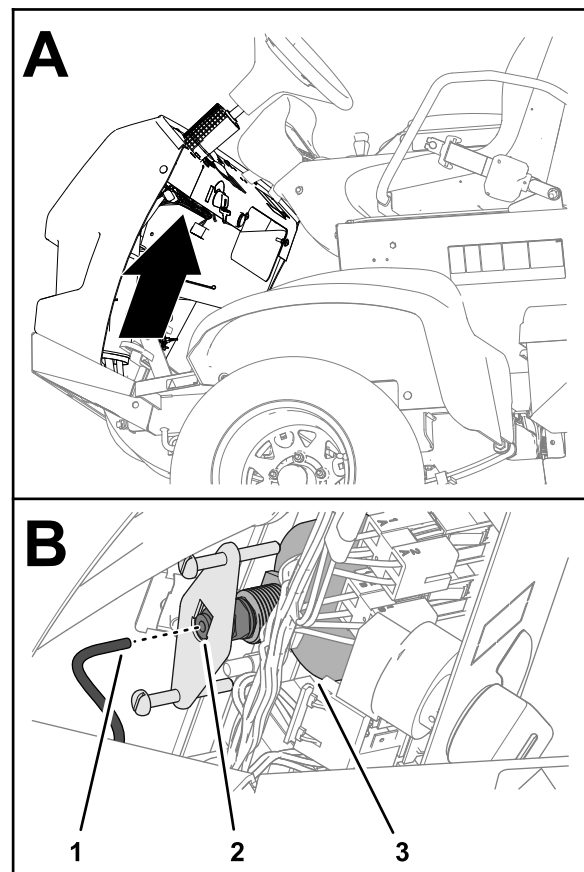

Figure 111
1. Insert the pressure-gauge tube into the tube coupler at back of the pressure gauge (Figure 111).